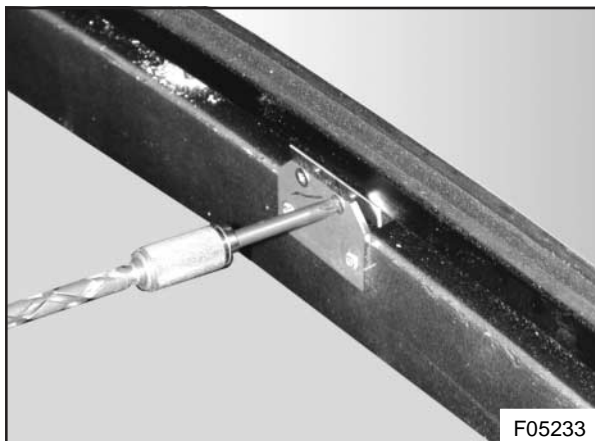

Figure 5 : Bottom window rail retaining bracket
2. Undo and remove the Phillips head bolts securing the bottom window rail to the two box channel mounting brackets (see Figure 5).